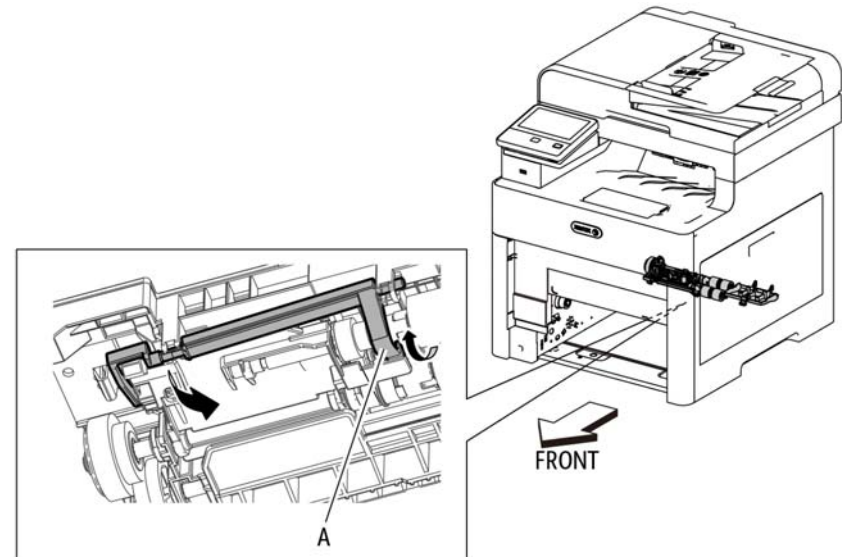

Figure 1 Remove the No Paper Actuator
3. Refer to Figure 1 to release the No Paper Actuator in the direction of the arrow and fully rotate the actuator.
When replacing the No Paper Actuator, rotate the actuator tab (labeled A in Figure 1) so it snaps into its home position as shown in the figure.